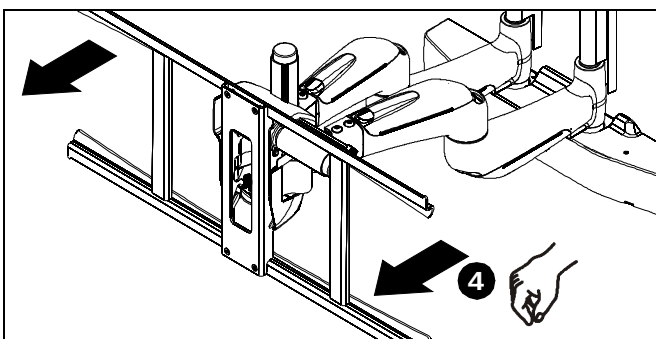

Figure 19
- Carefully pull PXR arms out from PAC502. (See Figure 19)